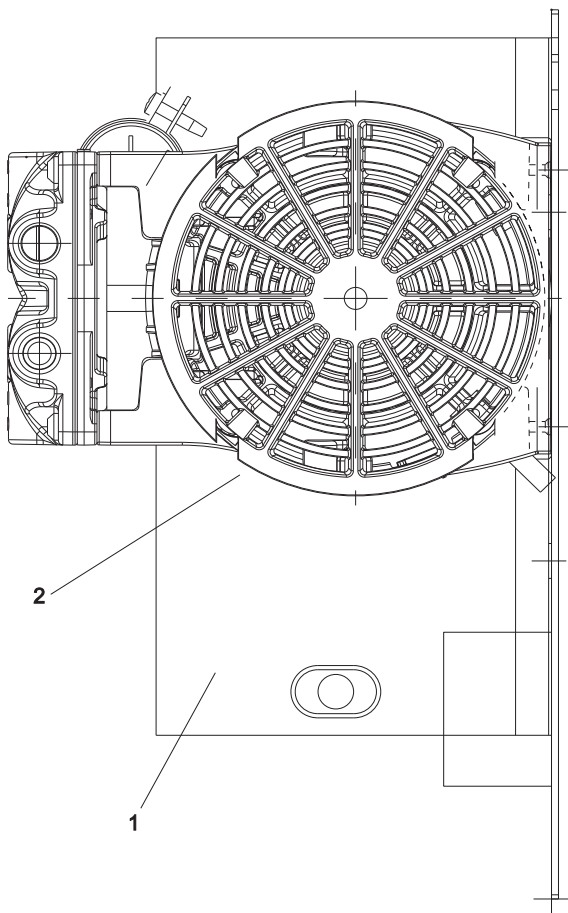

Fig. 2: Sensor installation - Side view
-  2 This symbol stands for a cross-reference to a certain graphic (e.g. Fig. 2).